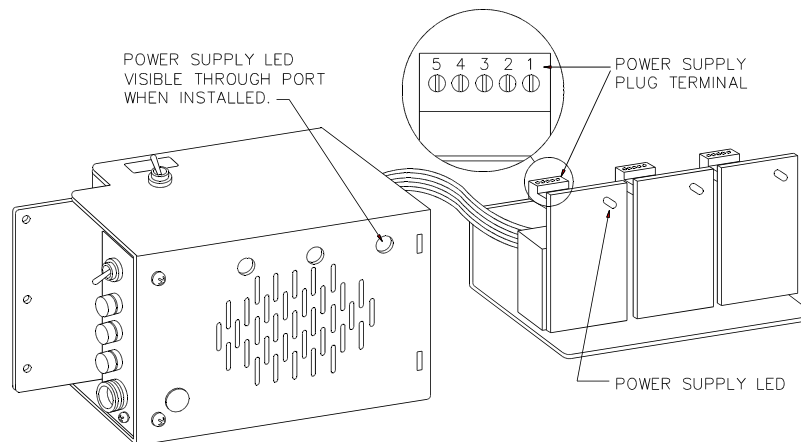

Figure 16
- d) With a voltmeter, check the input voltage to each power supply plug terminals 1 and 2. The reading should be 120 vdc. (See Figure 16 and Wire Schematic on page 23).
- e) With a voltmeter, check the output voltage from each power supply plug terminals 3 and 4. (See Figure 16 and Wire Schematic on page 23). The reading should be 35 vdc.
2. Disconnect the common gray wire from terminal 4, the gray and black wires from terminal 2 and connect together (see Figure 16).